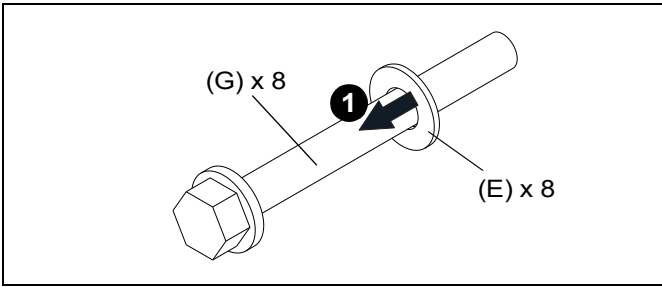

Figure 1
1. Install eight 3/8" washers (E) onto eight M8 x 75mm anchors (G). (See Figure 1)